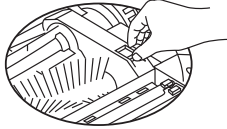
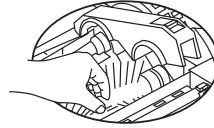

Figure 1
Figure 2
1. Force the locking bar forward and raise the cover with your thumb. Then raise the rod of the main cleaning brush with your other hand (Refer Fig 1 and Fig 2).